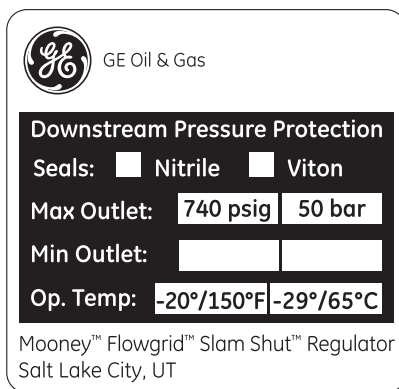

Figure 2 – Slam Shut Nameplate
3. Connect a pressurized bottle into the Slam Shut Sense Port and apply the desired Set Point pressure. (See Figure 2).